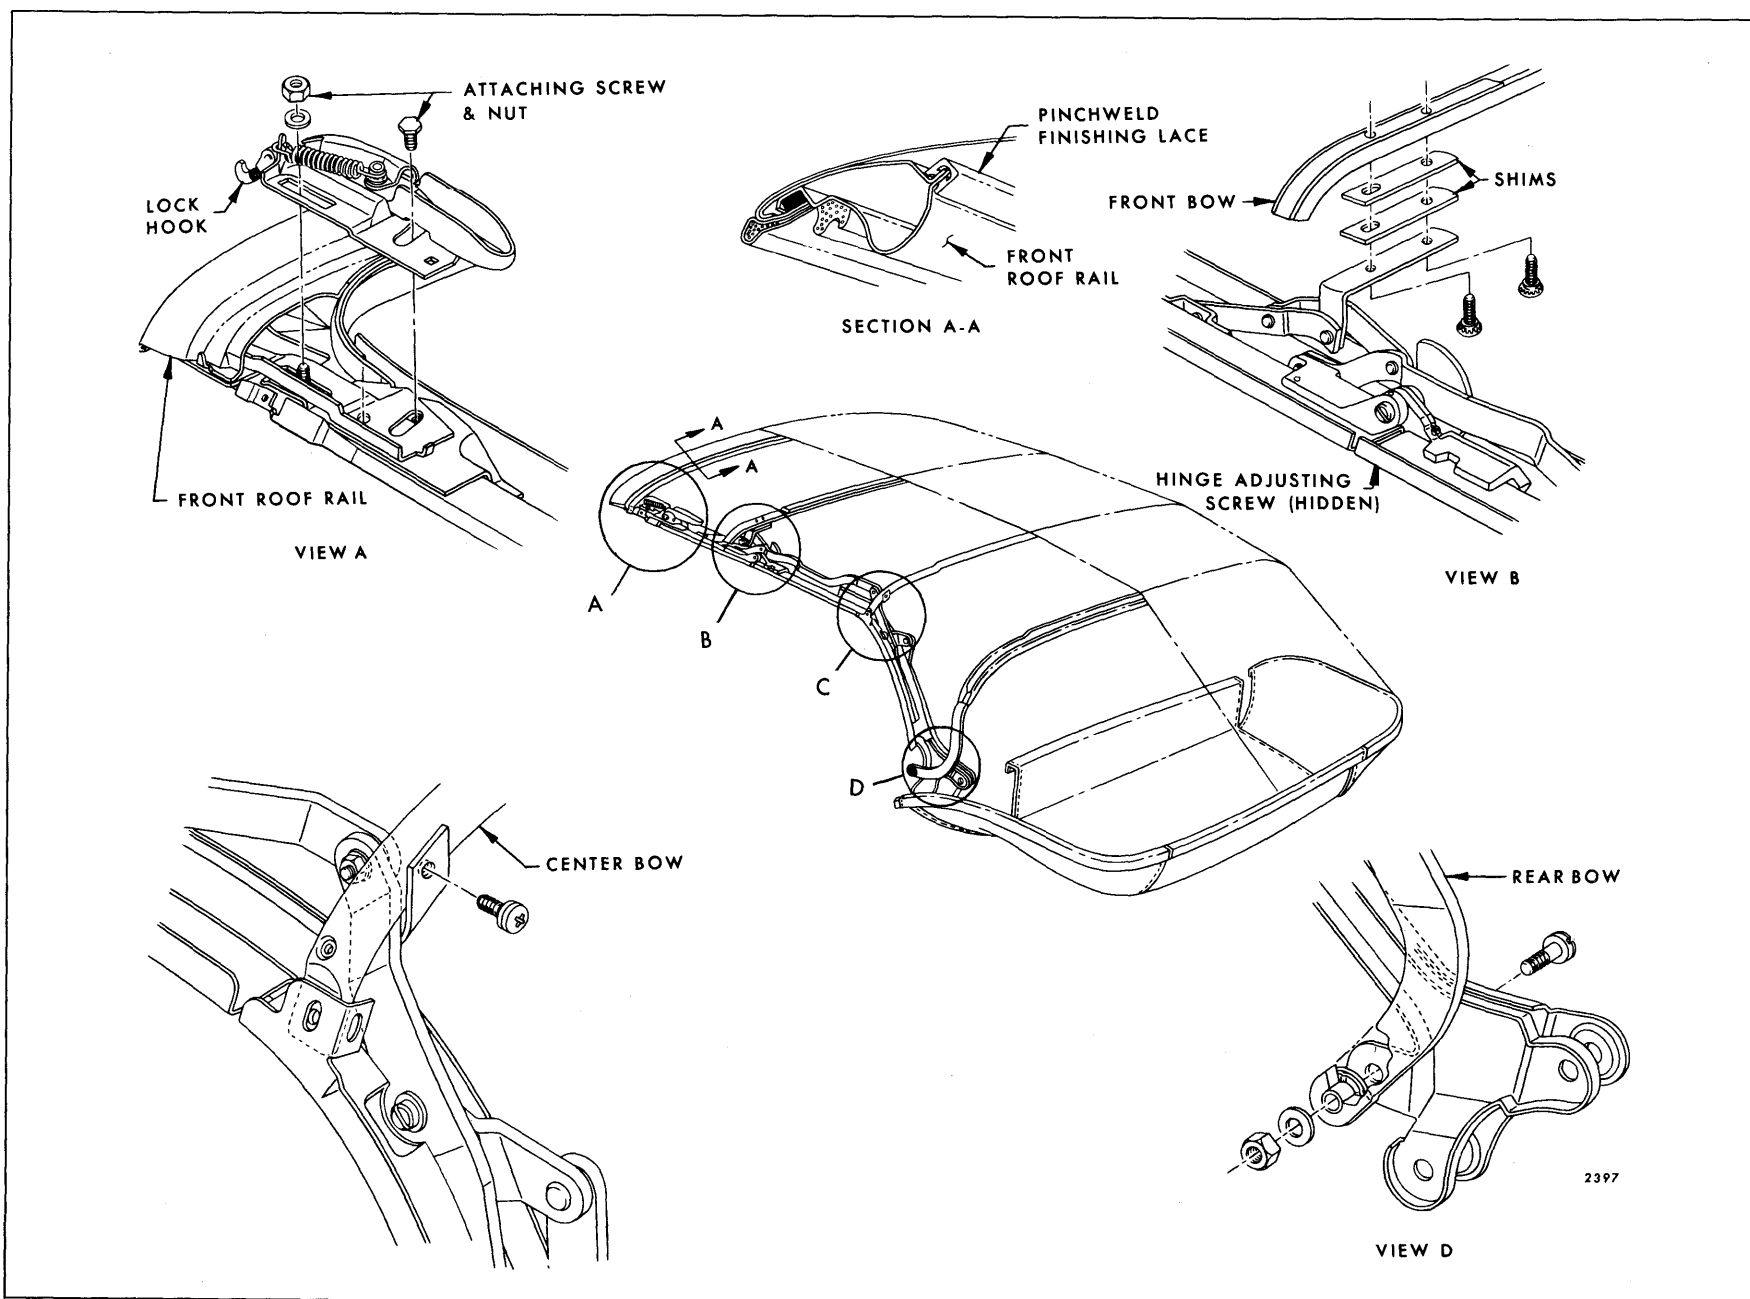

Fig. 13-83—"F" Body Folding Top Adjustments
2. Loosen lock assembly attaching screws on side roof front rail and adjust front roof rail fore or aft as required. Repeat on opposite side if necessary. (See View "A", Fig. 13-83.)
2. With top in a half-open position, remove lock attaching screws; then remove lock assembly from front roof rail. (See View "A", Fig. 13-83.)
3. Front roof rail misaligned.	Adjust front roof rail. (View "A" in Fig. 13-83.)
2. Center side roof rail hinge adjusting screw improperly adjusted.	Adjust screw counterclockwise. (See View "B" in Fig. 13-83.)
2. Center side roof rail hinge adjusting screw improperly adjusted.	Adjust screw clockwise. (See View "B" in Fig. 13-83.)